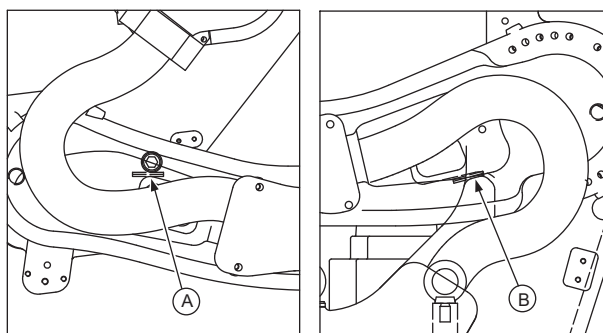

Fig. 3-3: Damping material for transport
For transportation purposes the robot is fitted in the range (A) and (B) with a rubber buffer (see Fig. 3-3: "Damping material for transport").